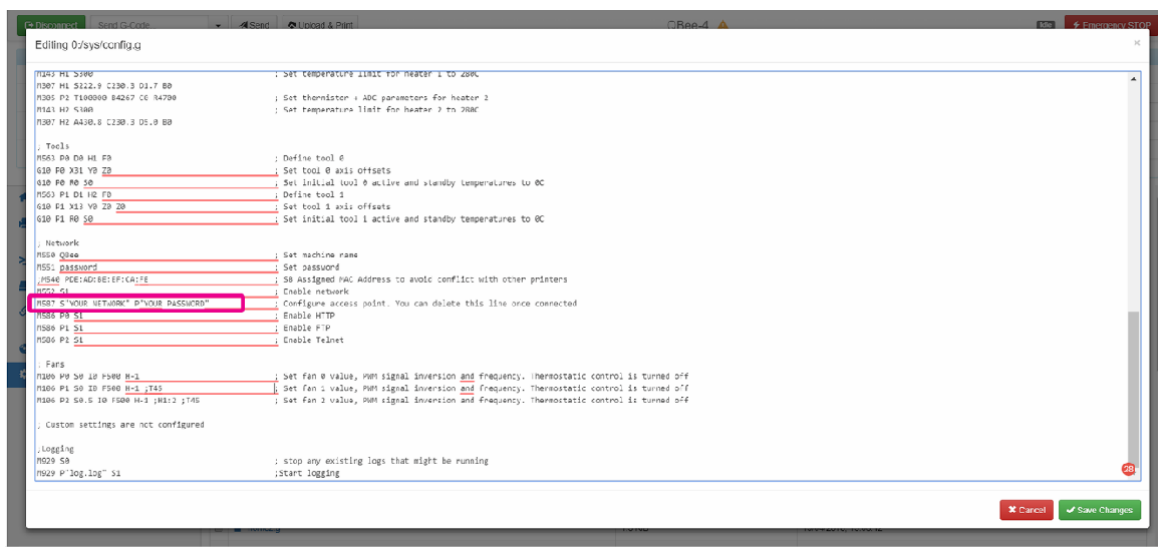

fig.2
- In Config.g file, scroll all the way down to the "Network" section. (fig.2) The only command we care about is: M587 S"YourNetwork" P"YourPassword" – just input your wireless network name and password inside the apostrophes, select Save Changes, and Yes – to restart the printer.